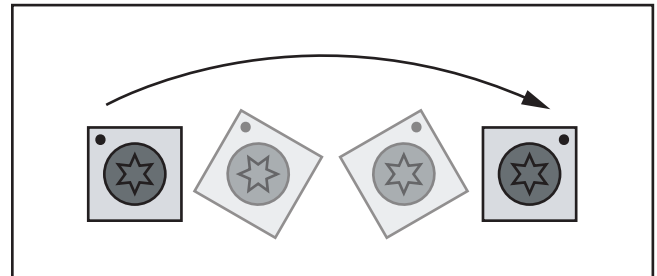

Figure 24. Insert rotating sequence.
The helical cutterhead is equipped with indexable carbide inserts that can be rotated to reveal any one of their four cutting edges. If one edge of the insert becomes dull or damaged, simply rotate it 90° to reveal a fresh cutting edge, as shown in **Figure 24**.
6. Rotate insert 90° and install so that a fresh cutting edge faces outward (see **Figure 24**).